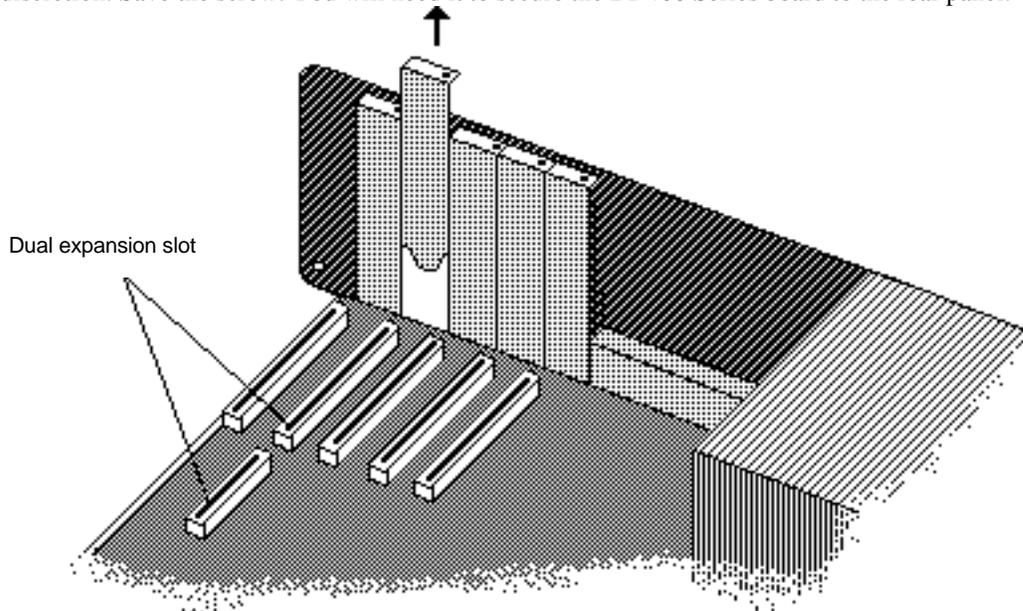

FIGURE 5
3. Locate your computer's expansion slots. Choose a 16-bit expansion slot into which the DI-400 Series board will be inserted. Note that a 16-bit slot is one characterized by dual expansion slot connectors (see FIGURE 5).
4. Using a screwdriver, remove the slot cover directly behind the dual expansion slot chosen in step 3 by removing the screw at the top (refer to FIGURE 5). The slot cover is no longer needed and may be saved or discarded at your discretion. Save the screw. You will need it to secure the DI-400 Series board to the rear panel.